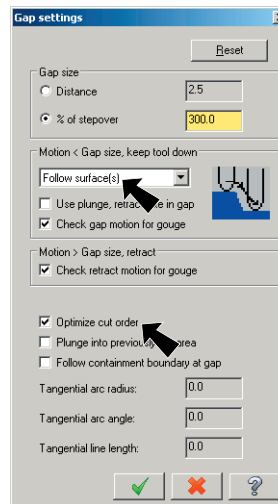

Fig. 80
Step 22. Under Motion, select **Follow surfaces**, **Fig. 80**.
Step 23. Check **Optimize cut order** and click OK  **Fig. 80**.